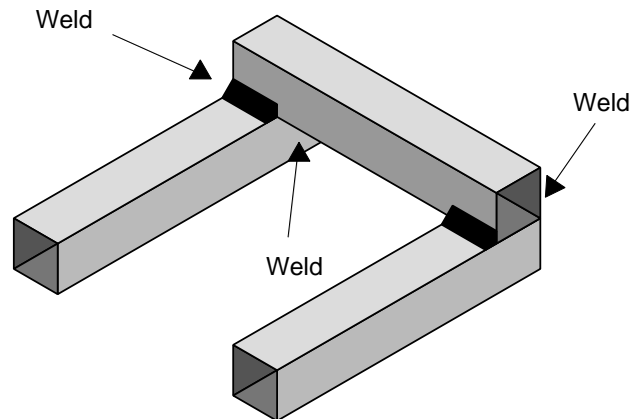

Figure 4: welding of frame cross piece.
- 2) Make up the U-shaped frame as shown in Figure 4. If you have a G clamp you can use it to hold two pieces of the frame together during welding.